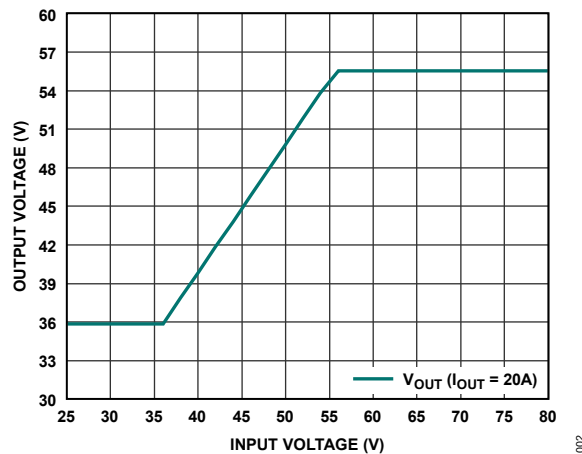

Figure 2. Output Voltage vs. Input Voltage in Pass-Thru Mode
6. V_{OUT} should range from 36V \pm 2% to 56V \pm 2% (see Figure 2).